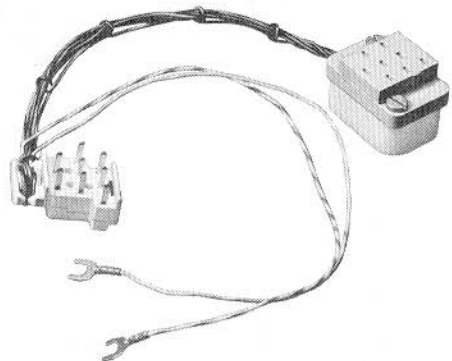

Fig. 10—810155501 Adapter
2.18 The 635AD5C key module is equipped to provide four pickup keys, one cutoff key, and a hold key. The key module is used in the first module of the telephone set and has to be equipped with 2 contact strip assemblies 2.14(1)(c) and a piggy-back adapter 840155501 (Fig. 10) accommodates the slate 508-type mounting cord plug.